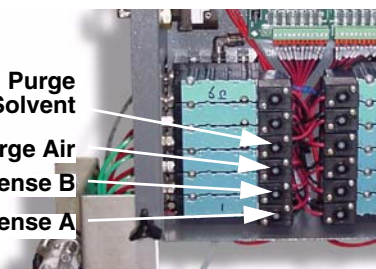

FIG. 3
3. Solenoid failure	<p>Manually operate the valves by removing the Smart Fluid Panel cover and pressing and releasing solenoid valve override buttons. FIG. 3.</p> <p>Use the control board diagnostics to check the signals (page 13). If signals do not occur correctly, go to Cause 4.</p> <p>Valves should snap open and shut quickly. If the valves actuate slowly, it could be caused by:</p> <ul style="list-style-type: none"> • Air pressure to the valve actuators is too low. See Cause 1. • Solenoid is clogged. Make sure air supply has 10 micron filter installed. • Something is restricting the solenoid or tubing. Check for air output from air line for corresponding solenoid when valve is actuated. Clear restriction. • Packings on the mix manifold dispense valves are too tight. Torque should be 25 in-lbs (2.8 N•m). • A dispense valve is turned in too far. See ProMix™ II Operation manual for settings, • Fluid pressure is high and air pressure is low.